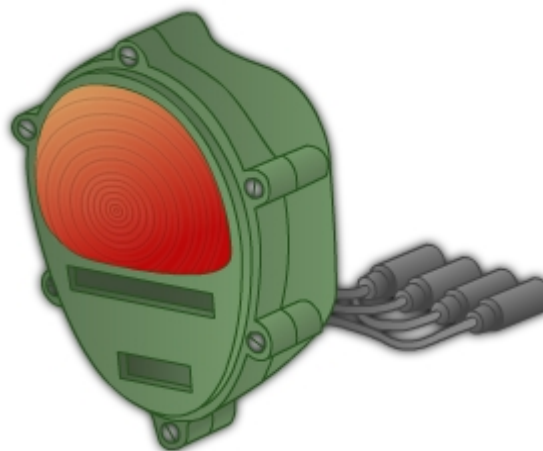

Figure 8-39 — Blackout composite light.
- The composite light is currently the standard light unit that is used on the rear of tactical military vehicles. The composite light combines service, stop, tail, and turn signals with blackout stop and tail lighting (*Figure 8-39*).